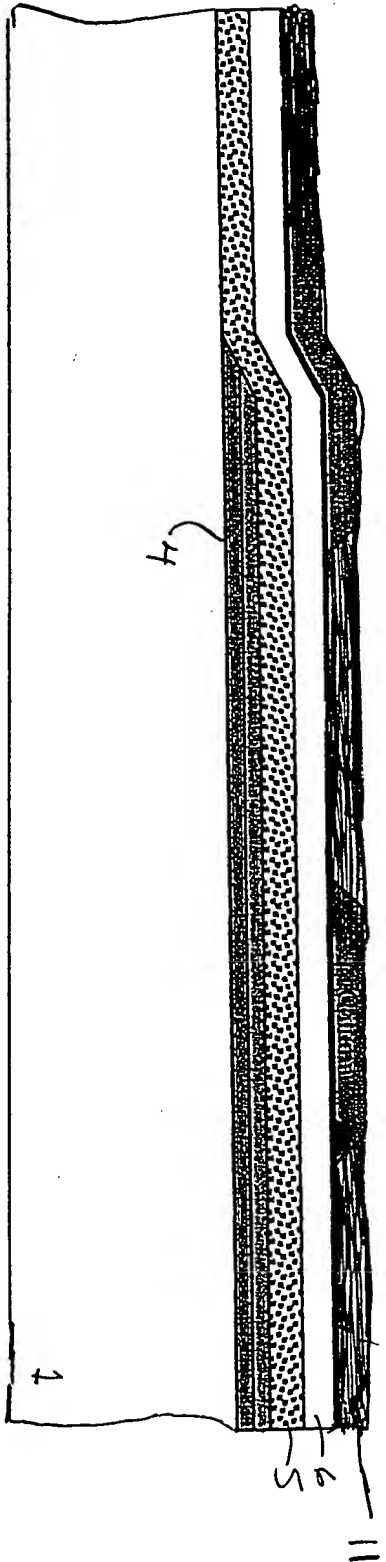
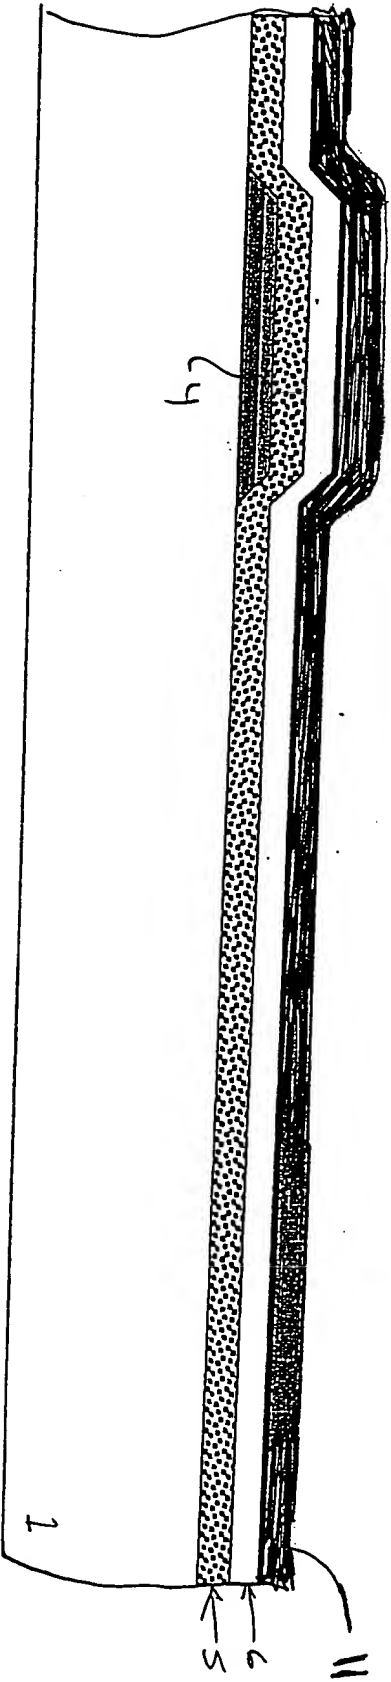

FIG. 7A
FIG. 7B
FIG. 7A and FIG. 7B are cross-sectional views of a multi-layered structure. The structure includes a top layer (11), a middle layer (4) with a stippled texture, and a bottom layer (1). A small gap or channel (5) is visible between the top and middle layers. The structure is shown in a perspective view, slightly angled.